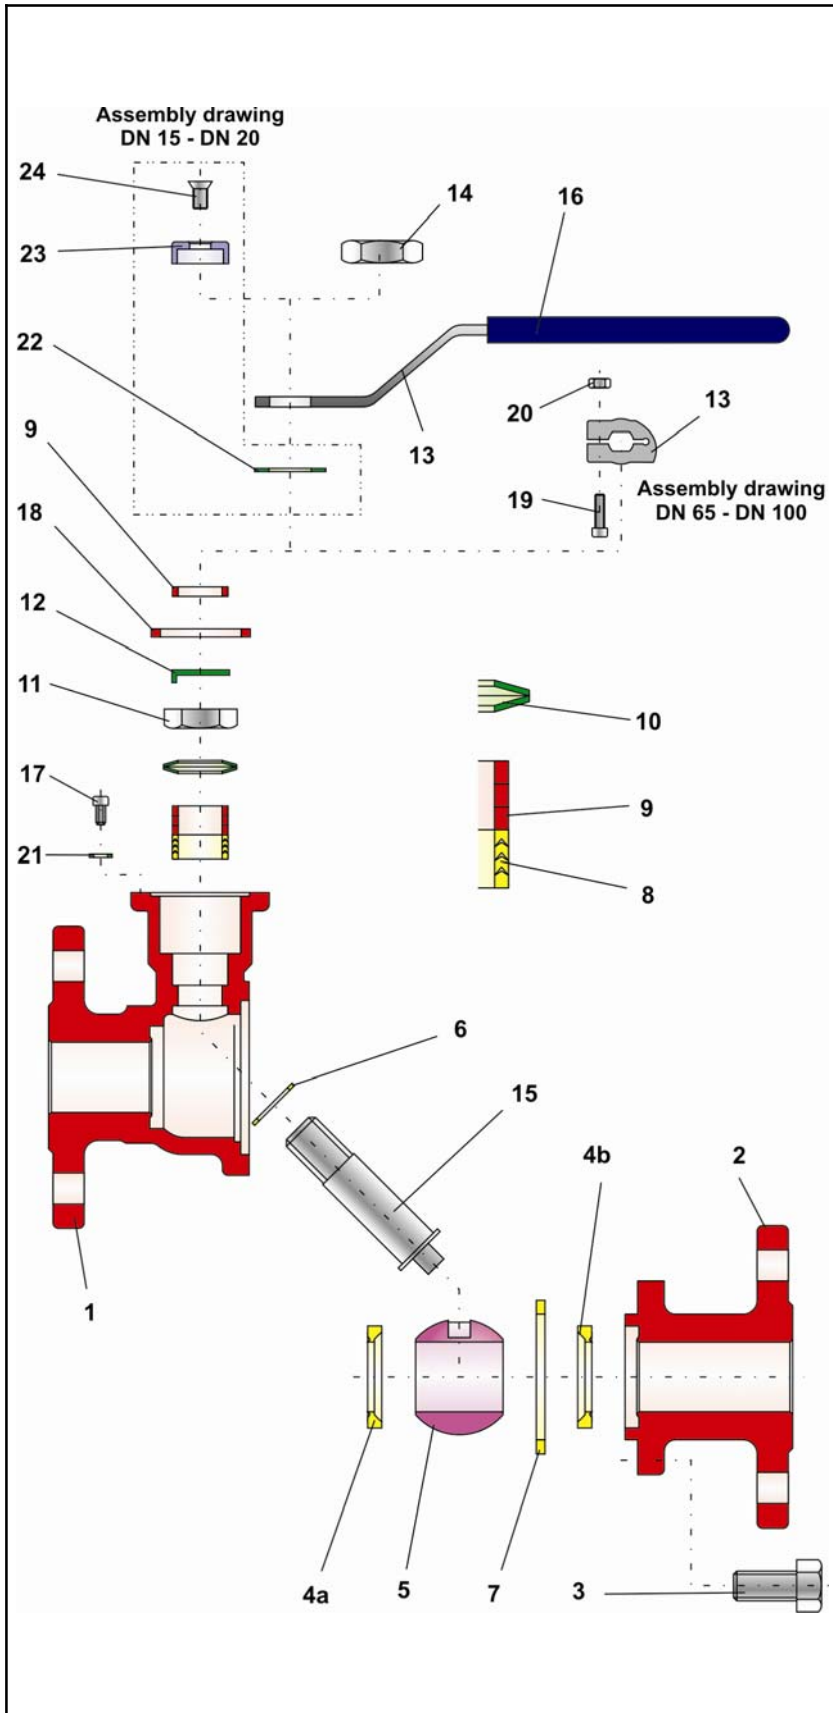

Fig. 3 – Detail drawing of Series 26d-Type C Ball Valve
Push the packing follower (9) and the V-ring packing (8), turning them slightly, over the mounted shaft (15) and position them in the packing seat of the main body (1). Refer to Fig. 3 for the arrangement of the V-rings.
Stack the spring washers (10) on the V-ring packing. Refer to Fig. 3 for the arrangement of the spring washers.